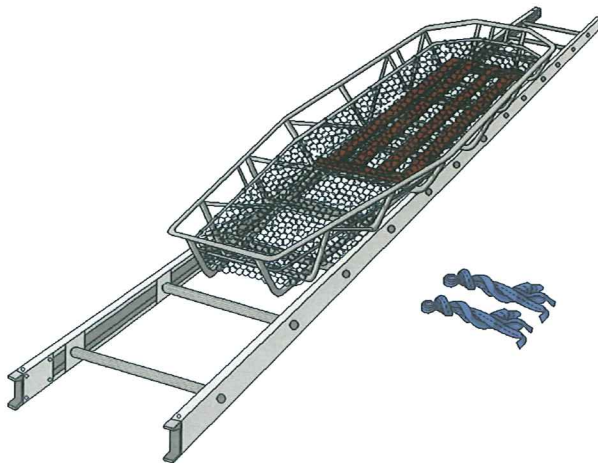

Figure 15-3: Rescue Litter at the Foot of the Ladder
1. Place the rescue litter at the foot of the ladder. (Figure 15-3)